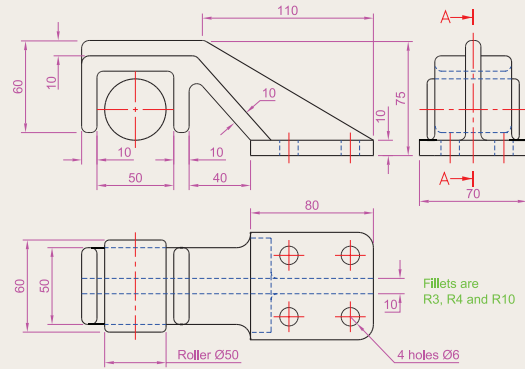

Fig. 8.21 Exercise 2
- Construct the three-view orthographic projection shown in Fig. 8.21 to the given dimensions with the front view as the sectional view **A-A**.